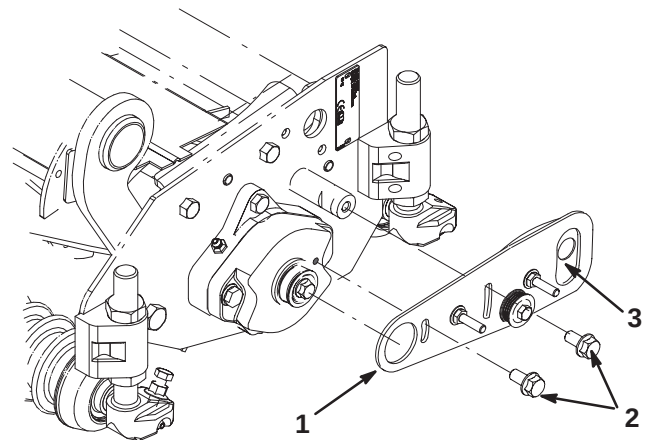

Figure 8
- Loosely** assemble pivot plate assembly to roller housing and threaded spacer with (2) 5/16-18 x 5/8" lg. flange bolts (Fig. 8).
- Loosen guard plate bolt for adjustment later (Fig. 8).